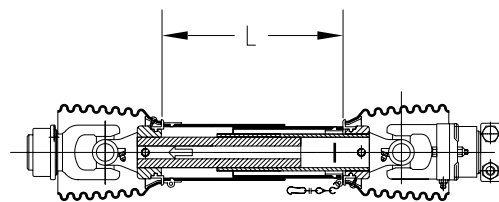

Fig. 1
1. Fully collapse PTO shaft and measure length “L” (Fig. 1).